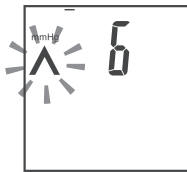

Fig.13
3. Beep will be heard, and air will be pumped into the cuff. The symbol «^» will flash, and the displayed value will increase (Fig. 13). Inflation will stop at optimum level owing to the Fuzzy Inflation algorithm.